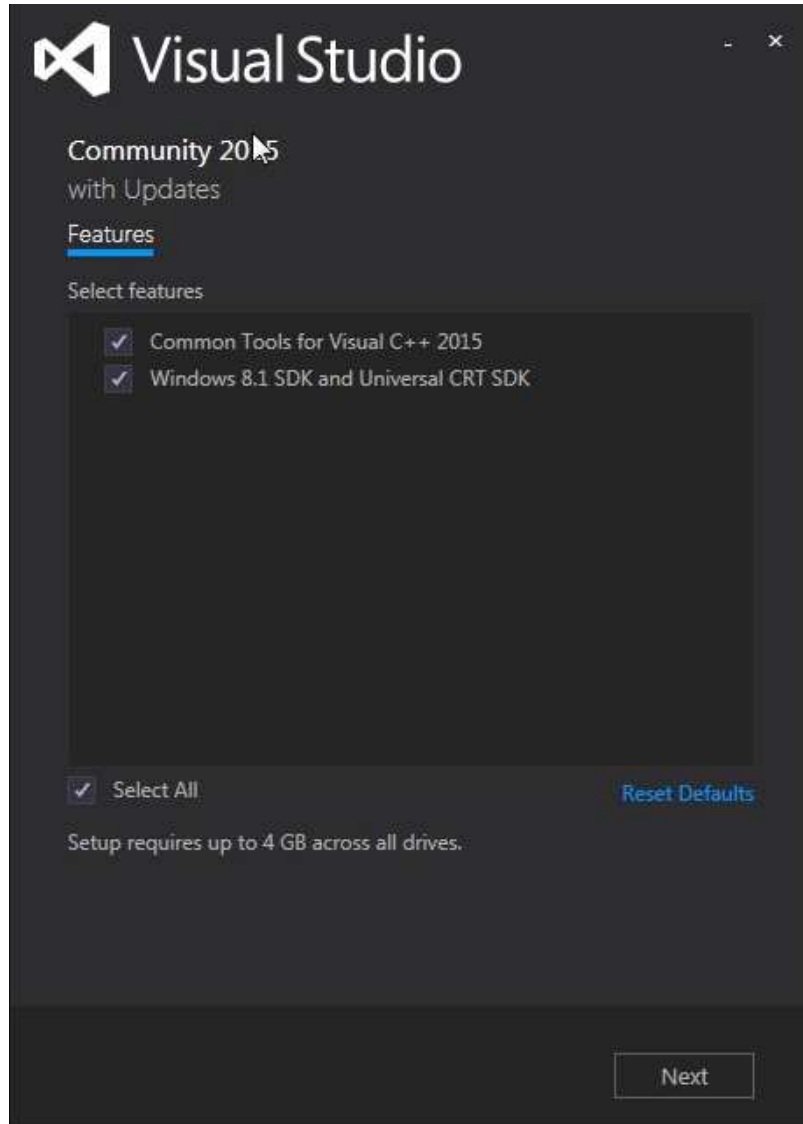

Figure 34. Visual Studio Updates
3. After restarting, a dialog box requiring an update to additional packages may appear, as shown in Figure 34. Click *Next* and then *Update*.